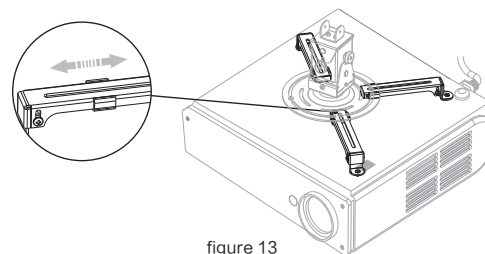

figure 13
2. If there are 3 holes, the installation arms (4-2) need to be taken apart from Installation bracket firstly. Connect 3 installation arms (4-2) to the projector, and then connect the installation arms (4-2) to the installation base (4-5) However, the installation base needs to be the center of projector. Figure 13.